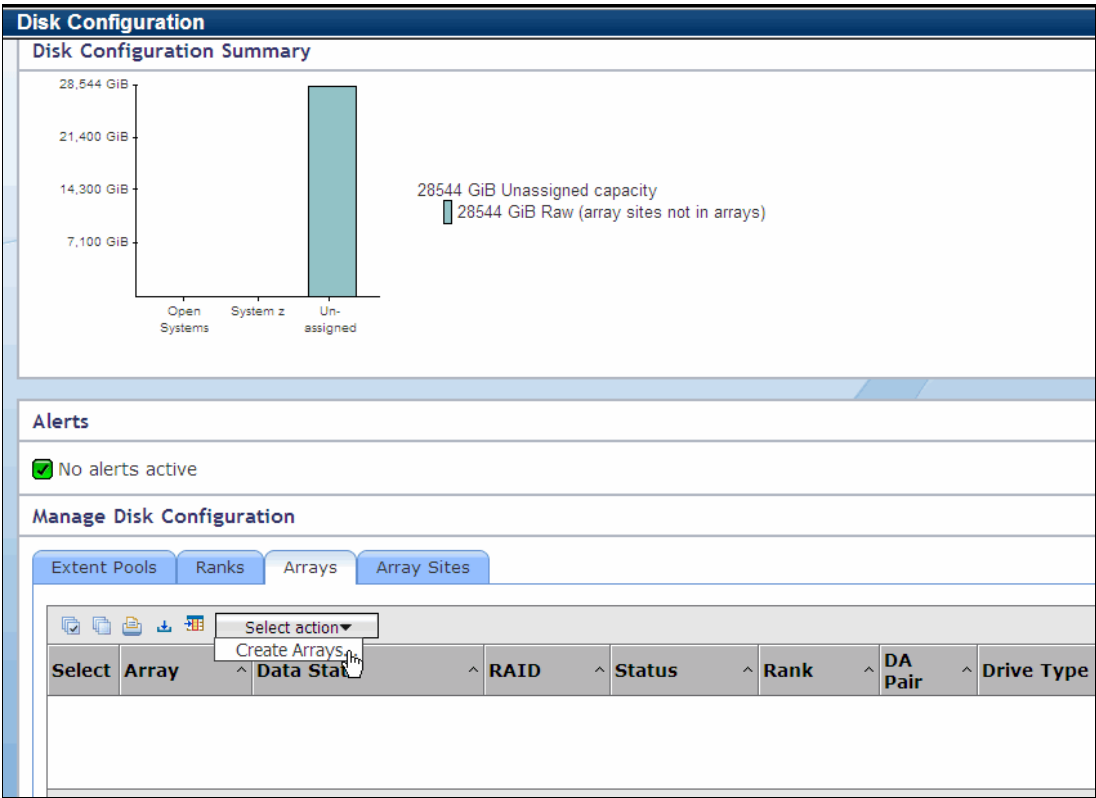

Figure 13-23 Select Create Arrays
6. Once we identify the unassigned and available storage, we can create an array. Click the **Array** tab in the Manage Disk Configuration section and select **Create Arrays** in the Select action drop-down menu, as shown in Figure 13-23.